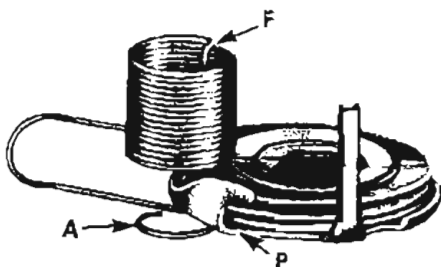

Fig. 36. Tension Disc Assembly
2. Place tension discs Q on thread guard P as shown in Fig. 36.
3. Pass eyelet of take-up spring A under thread guard P with coils of spring above tension discs, as shown in Fig. 36.